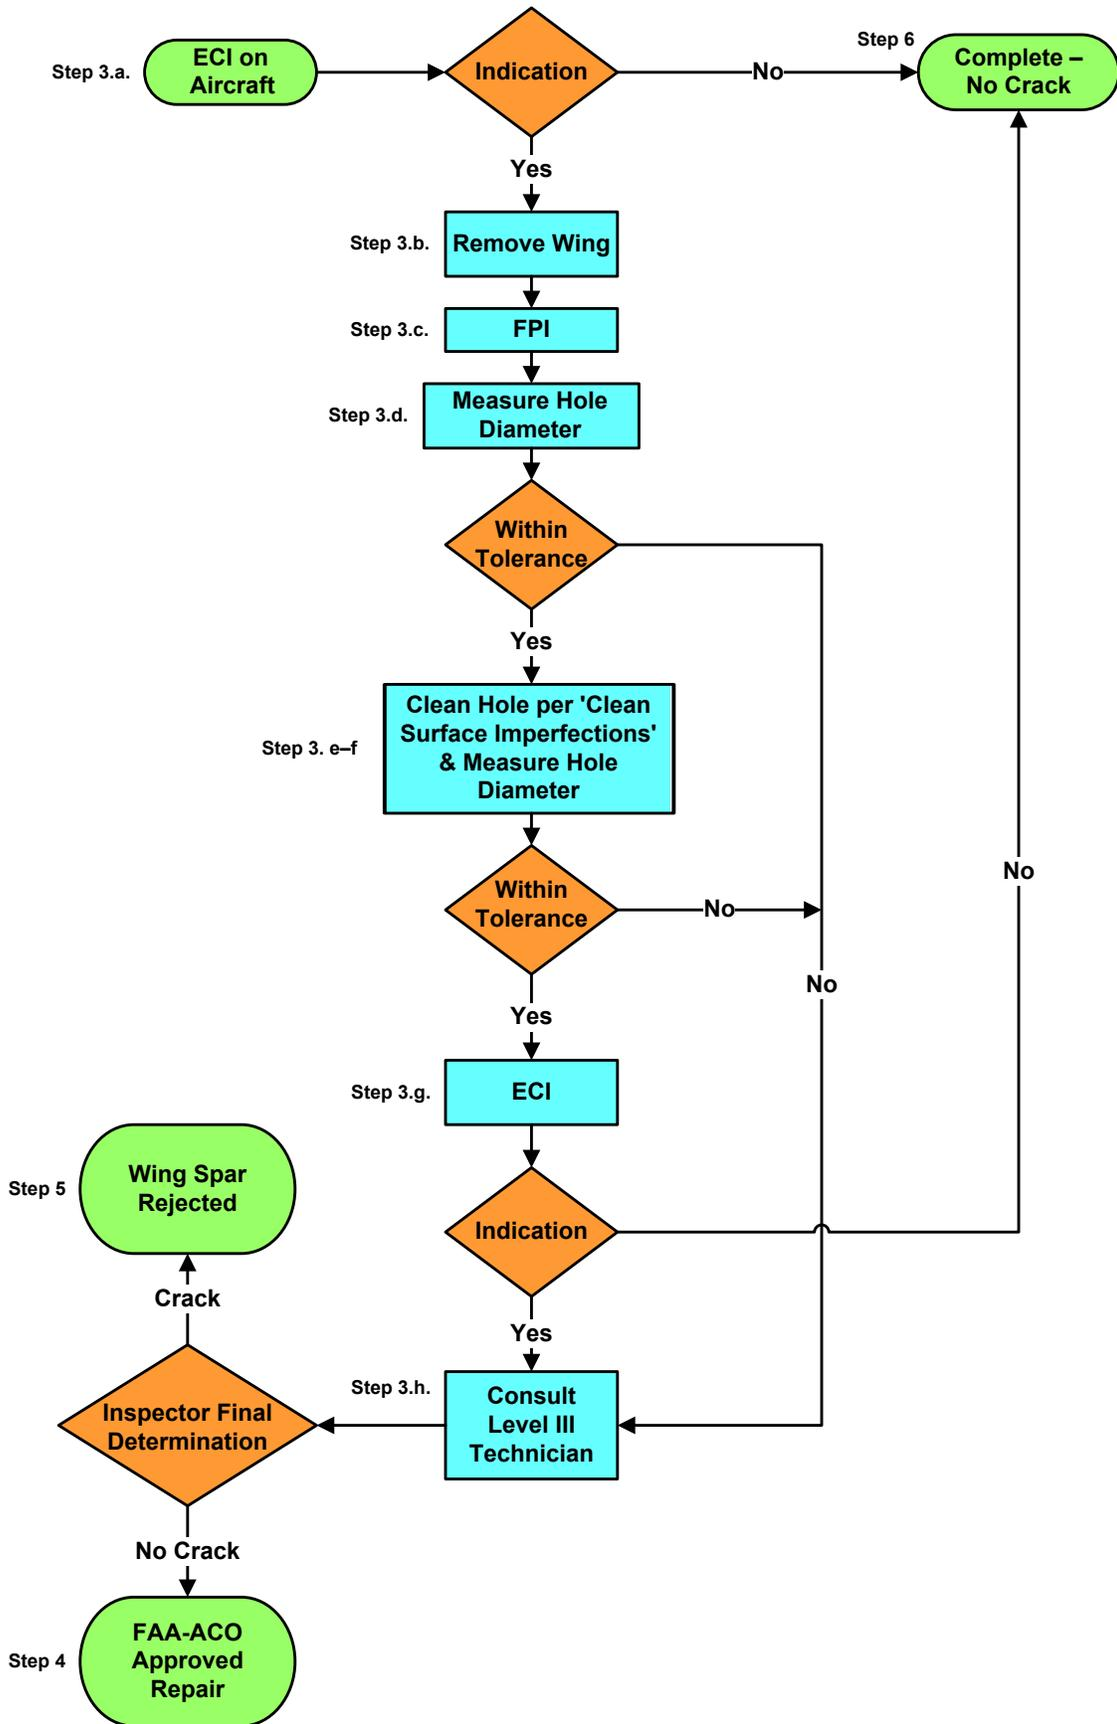

Figure 2
- The inspection steps in these instructions are visualized in Figure 2, a process flowchart.